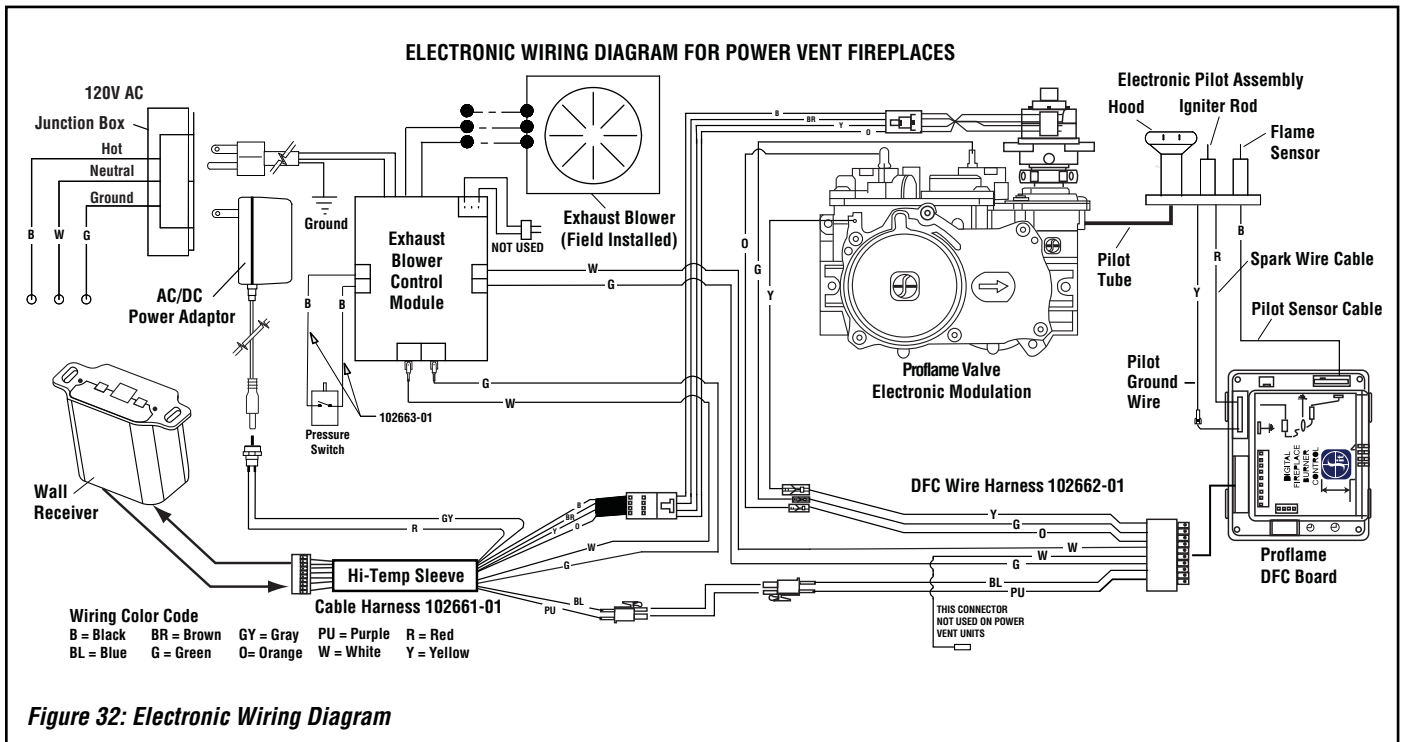

Figure 32: Electronic Wiring Diagram
CAUTION: Ground supply lead must be connected to the wire attached to the green ground screw located on the outlet box. See *Figures 32 and 33 on Page 24*. Failure to do so will result in a potential safety hazard. The appliance must be electrically grounded in accordance with local codes or, in the absence of local codes, the National Electrical Code, ANSI/NFPA 70-latest edition (In Canada, the current CSA C22-1 Canadian Electrical Code).
Wiring: Fireplace (See Figures 32 and 33 on Page 24)
- Refer to Figure 32 on Page 24 and install the electrical hardware on the fireplace end of the Romex wiring. Male terminals (#10) on the Black and White wires, and ring terminals (#9) on the ground wire. The termination end of the Romex will be connected to the termination with wire nuts (not provided).